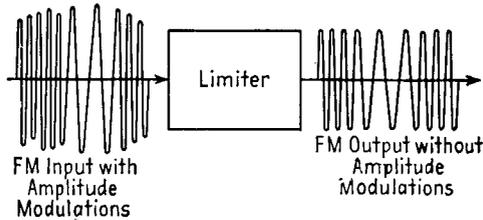

FIG. 24-10. Representation of limiter action.
**The limiter.** Here is the first point at which we seem to depart from the standard A-M superheterodyne receiver in function. But this is not so. The limiter stage is simply a specialized IF amplifier. Its action is indicated in Fig. 24-10.